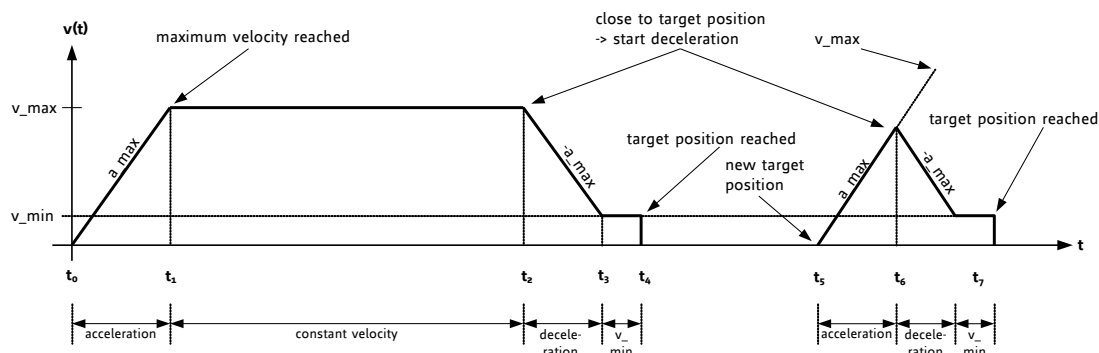

Figure 5.14: Velocity profile in ramp mode
- In the **Ramp-Mode** the maximum acceleration (a_{max}), maximum (v_{max}) and minimum (v_{min}) speed and the target position (x_{target}) are specified to calculate the actual velocity. By giving the target position, the TMCM-342 calculates the speed profile of each stepper motor from the current position and the specified parameters and immediately converts it into a motion sequence. In Figure 5.14, an example of the motion sequence is shown. Here the motor accelerates from t_0 onwards with a_{max} till it reaches v_{max} in t_1 , then it moves itself with v_{max} up to t_2 , it then slows down with a_{max} till it reaches v_{min} in t_3 and then it travels with v_{min} till it reaches its target (x_{target}) in t_4 . On the right side of the Figure it can be seen that v_{max} cannot be reached if a_{max} is too small or the target (x_{target}) is too close.